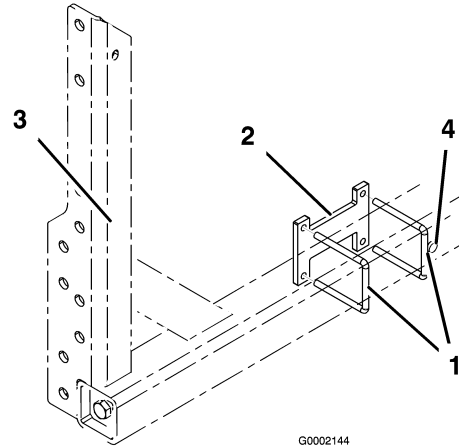

Figure 2
1. Install 2 U-bolts, and a spacer to the boom frame as shown in Figure 2. Position the